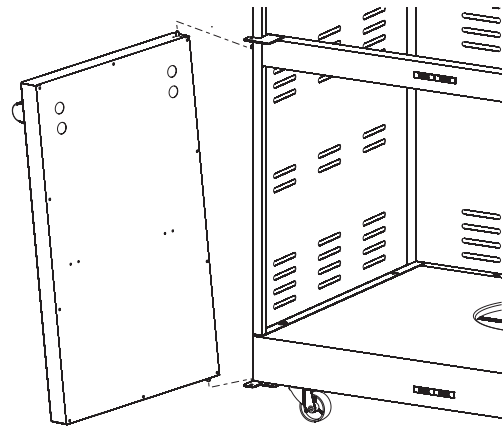

Figure 3
8. Place bottom pivot pins on doors into cart bottom and snap spring-loaded top pivot pins into door brace. See Figure 3.